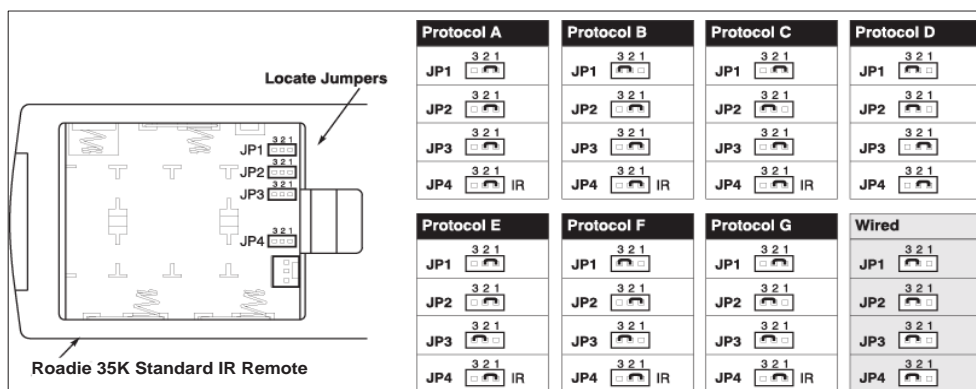

Figure 2-55 Locating and Setting the Jumpers
3. Set the jumpers to match one of the protocols shown in Figure 2-55. Use tweezers or needle-nose pliers to remove and replace each jumper as necessary.
If desired, you can convert an IR remote into a wired remote and vice versa. Set the jumpers as shown in Figure 2-55, and add or delete the cable and batteries as required. The cable with appropriate connector is supplied with the projection head.
5. Set the remote's protocol to "wired" jumper setting (refer back to Figure 2-55). Make sure to set jumper #4 between pins 2 and 3 as shown in the last example (shaded).
5. Set jumpers according to the desired IR protocol (refer back to Figure 2-55). Make sure to set jumper #4 between pins 1 and 2, as shown for all remote protocols.